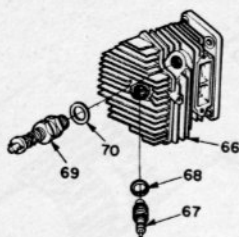

Fig. HL86A—View of compression release valve used on models listed in text.
Fig. HL86—Exploded view of typical engine assembly. Some models are not equipped with automatic chain oiler pump assembly (Items 85 through 93). Note that to remove the guide bar studs (83), the stud retainers (84) must be unscrewed from crankcase and tank assembly (74); do not attempt to unscrew the studs. Refer to Fig. HL86A for XL-903 and XL-904 models with compression relief valve. Fig. HL89 shows later type crankcase with removable fuel tank and with sawdust shield used in place of gasket (85).
early XL-924W and VI-944 are equipped with a compression relief (decompression) valve. The poppet type relief valve is mounted in a port adjacent to exhaust port as shown in Fig. HL86A. The valve is opened as throttle lock plunger is depressed to lock position. If valve fails to close when throttle lock plunger is released, either remove valve and clean using a carbon solvent or renew the valve assembly. Copper sealing washer is available separately.